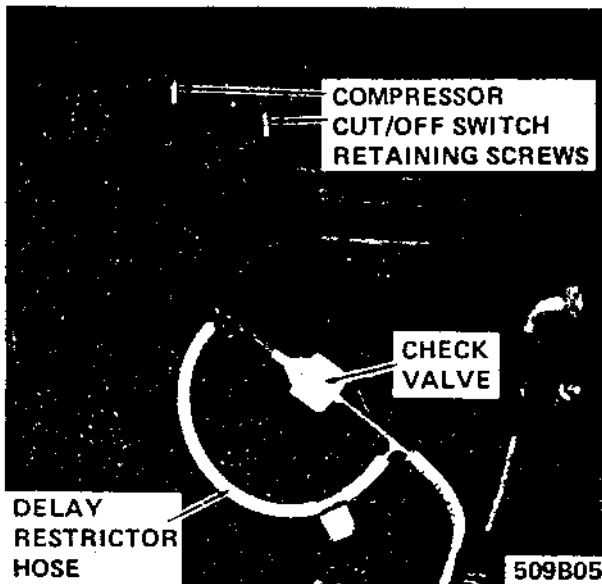

Figure 9B-8 Compressor Cut/Off Switch Retaining Screws
3. Install compressor support bracket. Torque bolts to 20 lb. ft. See Figure 9B-6.